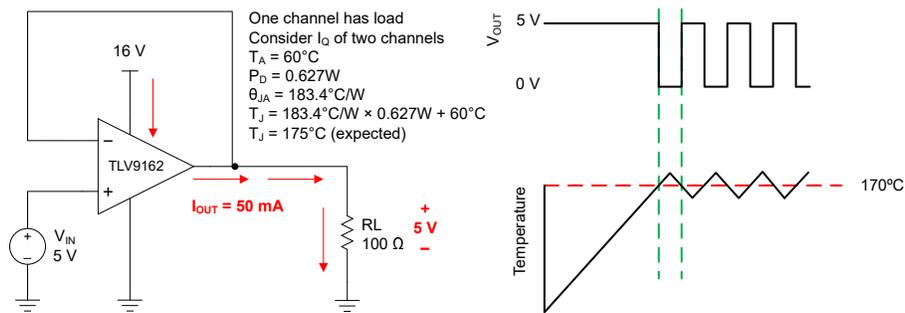

Figure 6-4. Thermal Protection
The internal power dissipation of any amplifier causes its internal (junction) temperature to rise. This phenomenon is called *self heating*. The absolute maximum junction temperature of the TLV916x-Q1 is 150°C. Exceeding this temperature causes damage to the device. The TLV916x-Q1 has a thermal protection feature that reduces damage from self heating. The protection works by monitoring the temperature of the device and turning off the op amp output drive for temperatures above 170°C. Figure 6-4 shows an application example for the TLV9162-Q1 that has significant self heating because of its power dissipation (0.627W). In this example, both channels have a quiescent power dissipation while one of the channels has a significant load. Thermal calculations indicate that for an ambient temperature of 60°C, the device junction temperature reaches 175°C. The actual device, however, turns off the output drive to recover towards a safe junction temperature. Figure 6-4 shows how the circuit behaves during thermal protection. During normal operation, the device acts as a buffer so the output is 5V. When self heating causes the device junction temperature to increase above the internal limit, the thermal protection forces the output to a high-impedance state and the output is pulled to ground through resistor  $R_L$ . If the condition that caused excessive power dissipation is not removed, the amplifier will oscillate between a shutdown and enabled state until the output fault is corrected. Please note that thermal performance can vary greatly depending on the package selected and the PCB layout design. This example uses the thermal performance of the TSSOP (8) package.